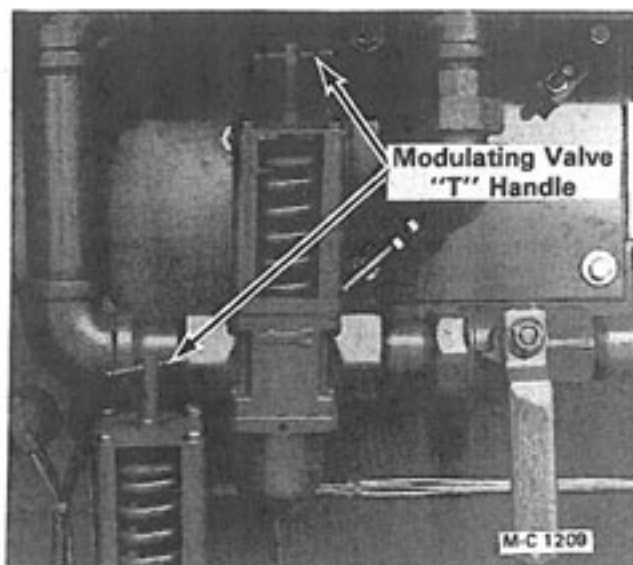

Figure 17
2. Turn the "T" handle on the modulating valve IN to INCREASE temperature and OUT to DECREASE temperature, see Figure 17. There is a temperature gauge on the front panel for each burner.